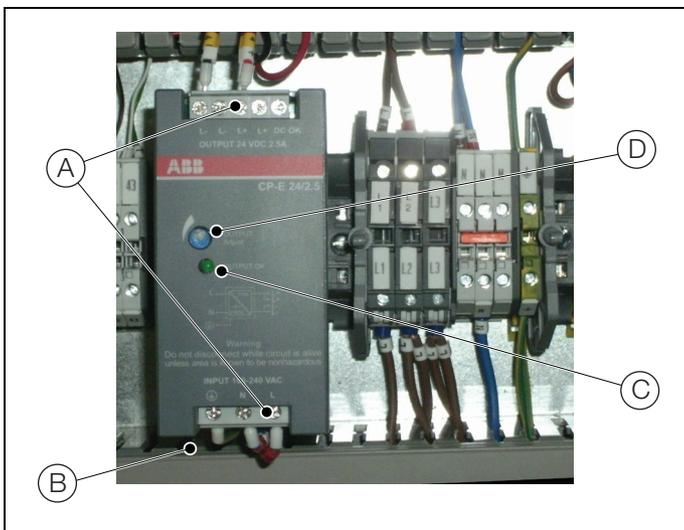

Fig. 5.2 Power supply unit replacement
3. Referring to Fig. 5.2:
- a. Record the position of power supply unit wiring (A) and disconnect it from the power supply unit terminals.
- b. Using a flat-bladed screwdriver, lift bottom latch (B) and lever it down to release the latch from the DIN rail.
- e. Reconnect power supply unit wiring (A) to the terminals recorded in step 3.
- f. Restore the interface unit's power supply and check that green 'DC on' LED (C) is lit.